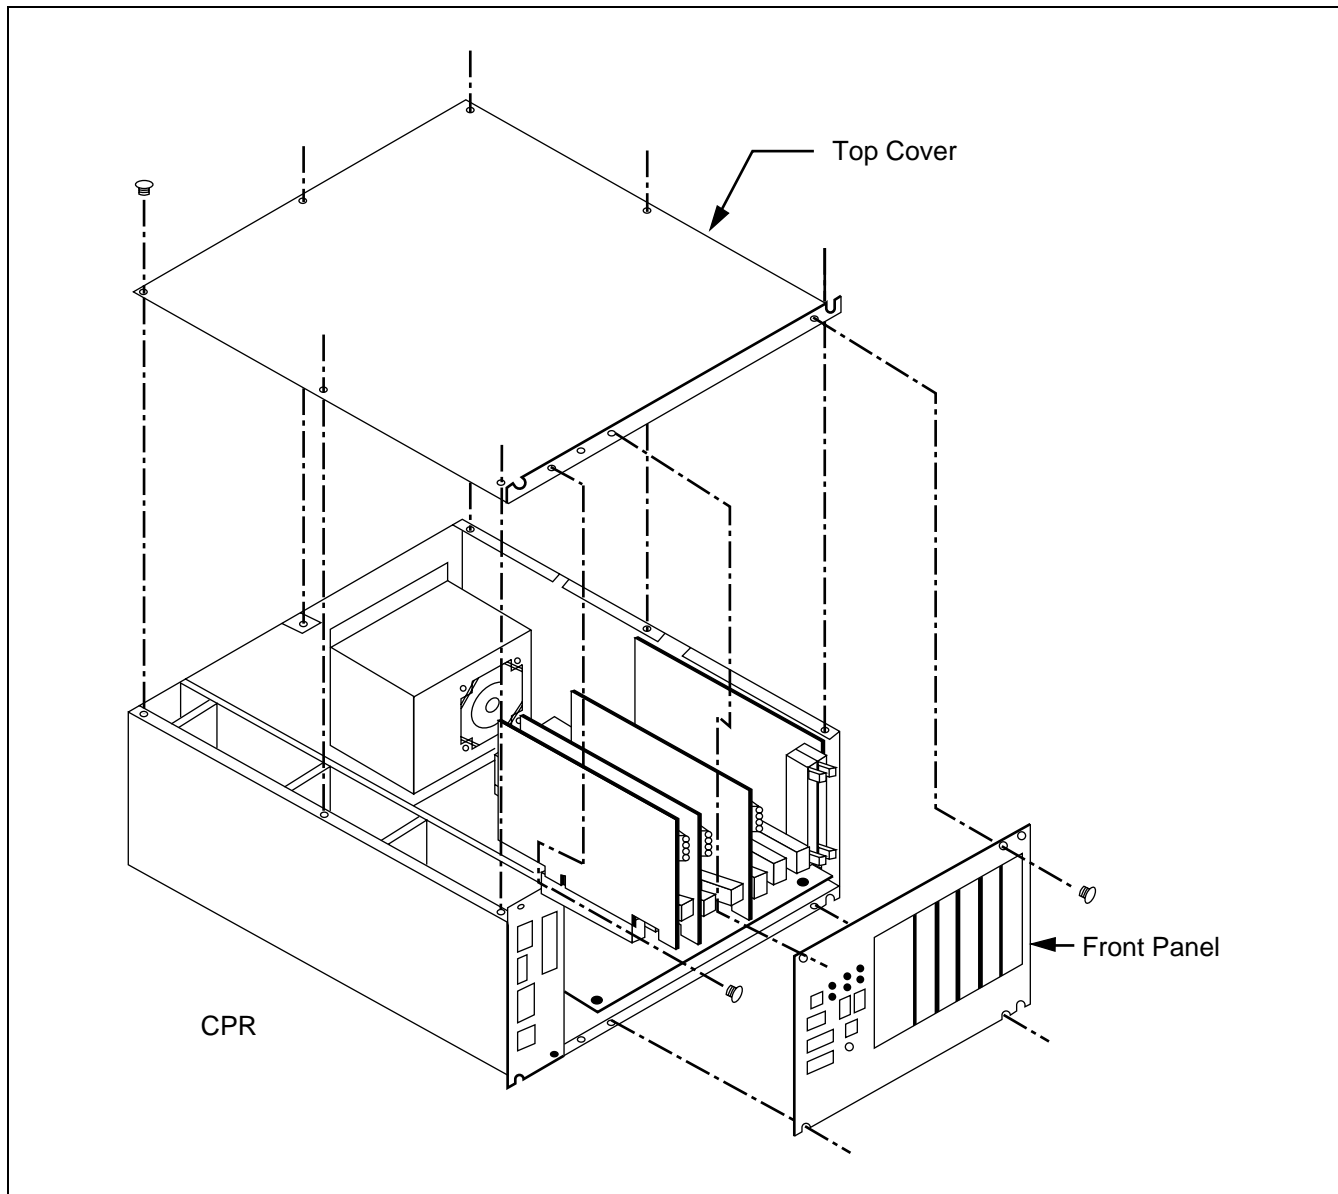

Figure 4-11 Reattachment of CPR Top Cover and Front Panel
- (3) Reattach the top cover by fastening the removed eight screws. Then, reattach the front panel by fastening the removed four screws. Refer to Figure 4-11.